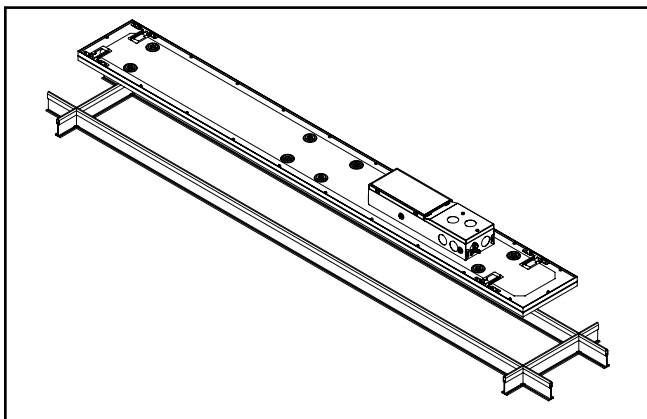

Figure 2.
5. Pass fixture through the grid at an angle and lay fixture into the grid. (Figure 2.)